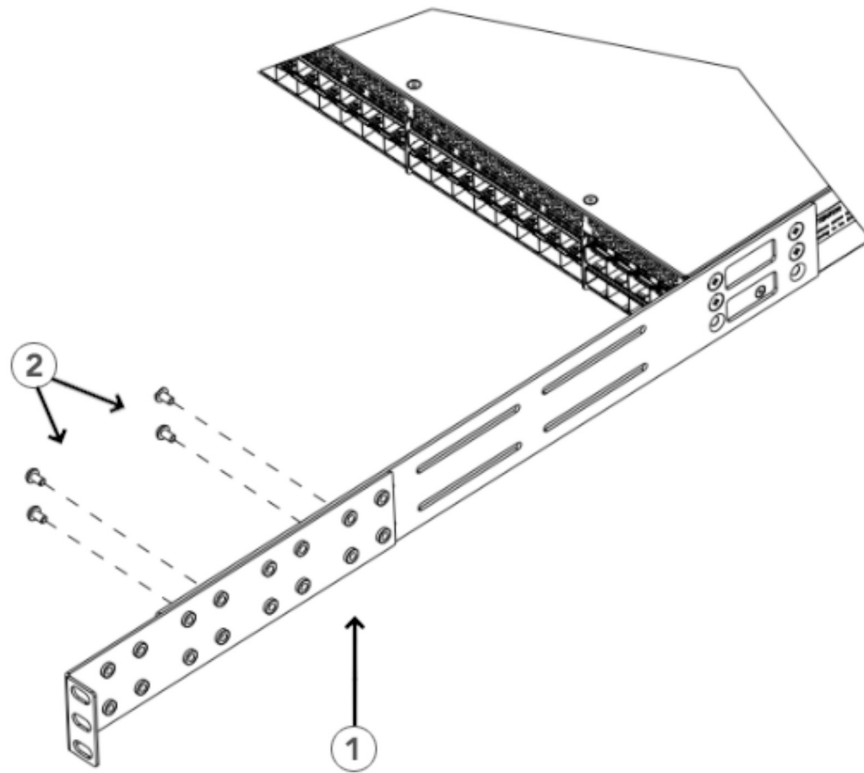

Figure 14. Attaching the short or long rear brackets to the extensions
- Refer to Figure 14 on page 24 for the positioning of the short or long brackets and screws.